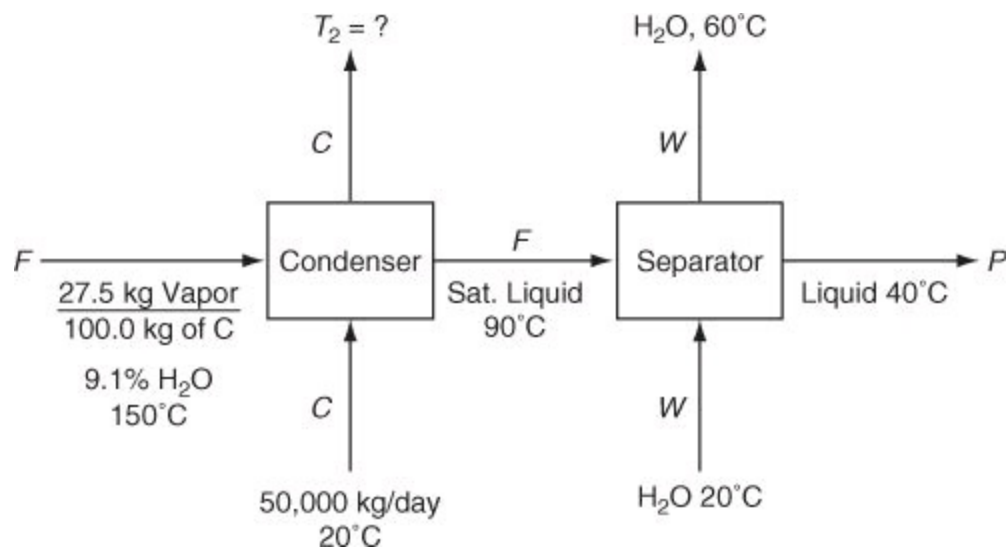

Figure P9.3.46
****9.3.46. A process involving catalytic dehydrogenation in the presence of hydrogen is known as *hydroforming*. Toluene, benzene, and other aromatic materials can be economically produced from naphtha feedstocks in this way. After the toluene is separated from the other components, it is condensed and cooled in a process such as the one shown in Figure P9.3.46. For every 100 kg of C charged into the system, 27.5 kg of a vapor mixture of toluene and water (9.1% water) enter the condenser and are condensed by the C stream. Calculate (a) the temperature of the C stream after it leaves the condenser, and (b) the kilograms of cooling water required per hour.